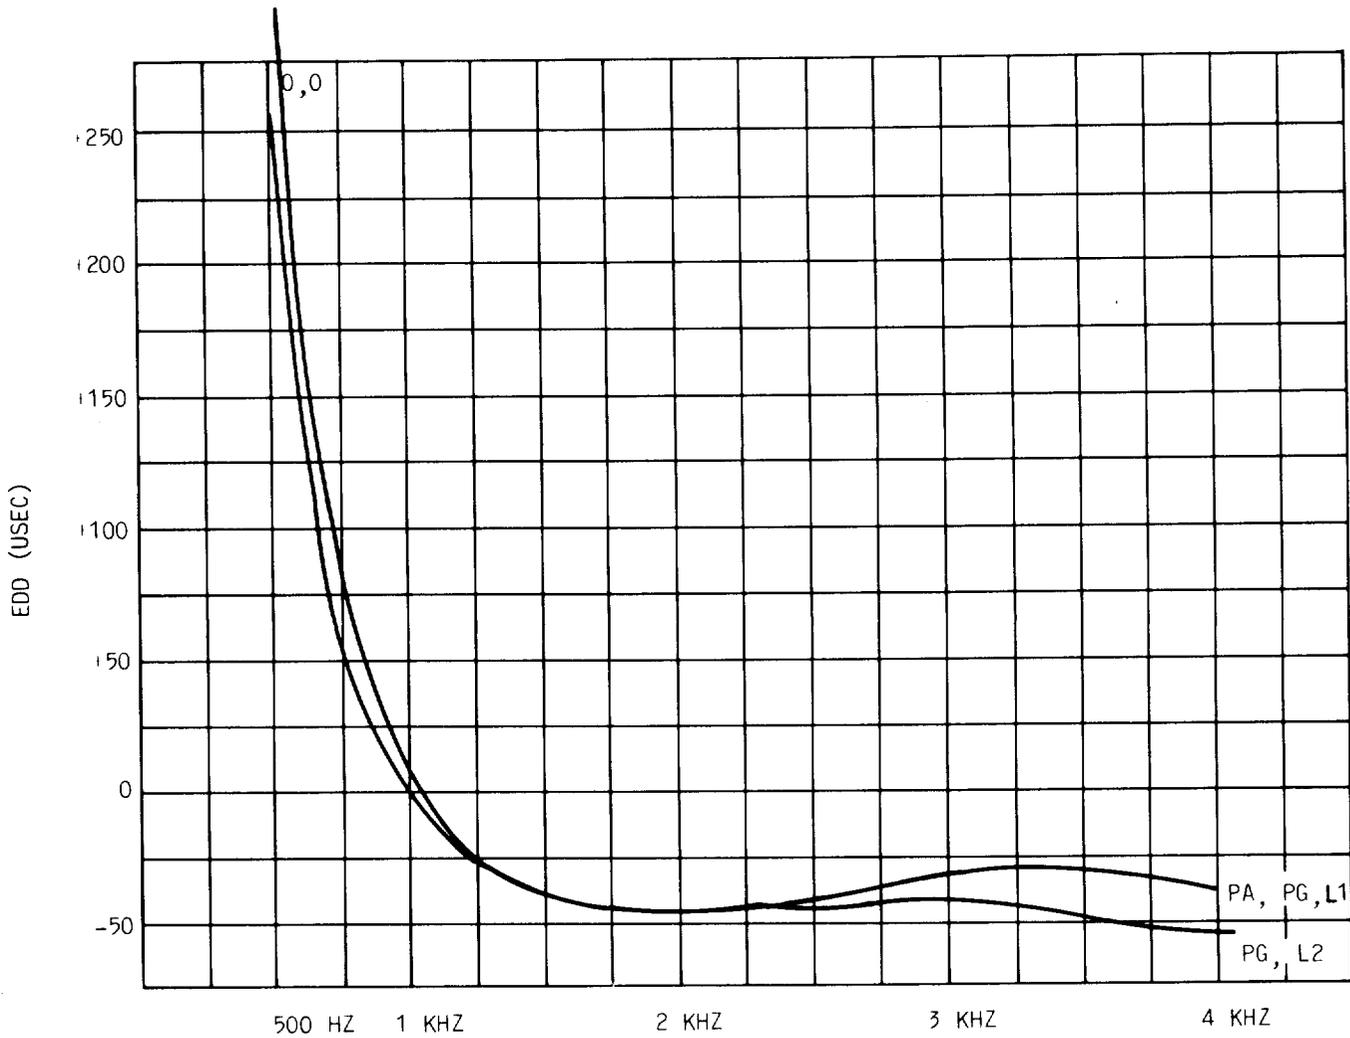

Fig. 10—Envelope Delay Distortion
4.03 Figure 10 gives the envelope delay distortion for the repeater.